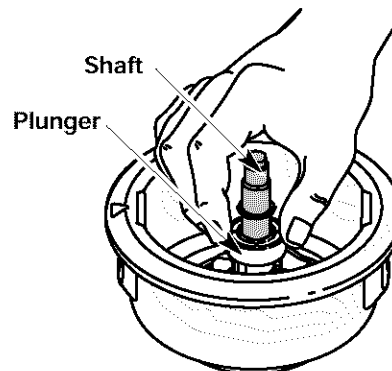

Fig. 30
5. Clean the shaft and the inner surface of the outer spool. To clean the shaft underneath the plunger, press down on the plunger (Fig. 30). Remove any dirt or debris from the shaft.